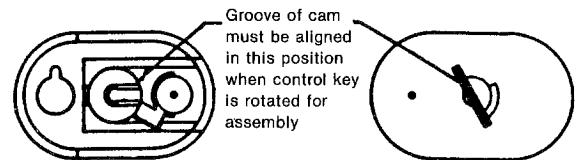

Fig. 5
4. Place the cam on top of the cylinder. **Note:** Make sure the cam is aligned as shown in figure 5 after installation.